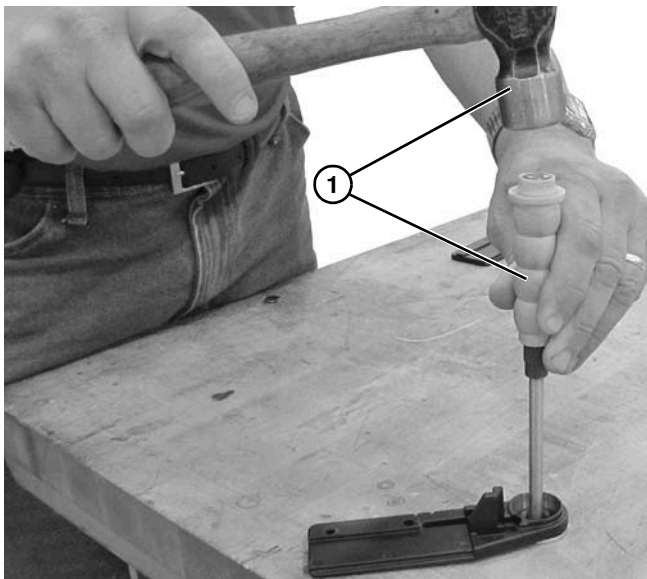

Figure 91
3. Use a hammer and punch (1/4" - 1/2" dia) (**Figure 91, item 1**) or long bolt to knock out slug (**Figure 95, item 1**) for shaft backing up tail plate with washer.